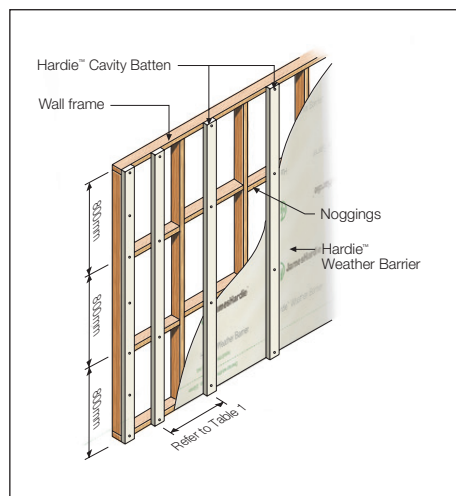

FIGURE 5 OFF-STUD FIXING
Alternatively, for the off-stud installation method, noggings must be installed at 800mm maximum centres, see Figure 5. The noggings must be aligned with the exterior plane of the frame to ensure that a flush surface is provided to accommodate the installation of the cavity batten. Off stud fixing is not suitable in high wind loads, see Table 1. This table specifies the maximum stud spacings for Matrix™ Cladding for Australian wind load classifications of AS 4055 'Wind Loads for Housing'.
The cavity batten can be installed off-stud over the Hardie™ Wrap™ Weather Barrier. It is important that horizontal supports (noggings) are installed at a maximum of 800mm vertical centres. A specified fastener is fixed at the intersection of every support, see Figure 5. For cavity batten and stud spacings, refer to Table 1.
* In the case of fixing the cavity batten off stud, the fastener spacing will be at each support i.e. a maximum of 800mm centres, see Figure 5.